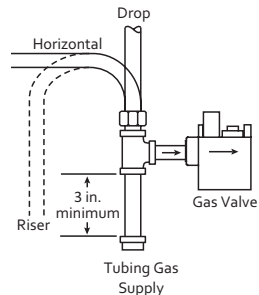

Fig. 2 – Typical Gas Valve Piping
5. Apply pipe joint compound (pipe dope) that is approved for all gases, only to the male threads of the pipe joints. **DO NOT** apply compound to the first two threads (see figure 2 for typical piping connections).